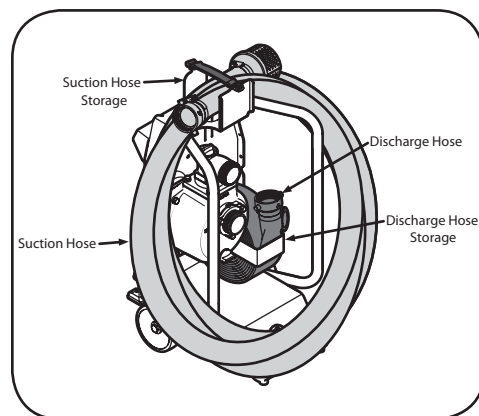

Figure 4-9
2. Disconnect and drain water from the suction hose and store using the suction hose storage. See Figure 4-9.
3. Disconnect and drain the discharge hose by rolling it flat. Then store the discharge hose using the discharge hose storage. See Figure 4-9.